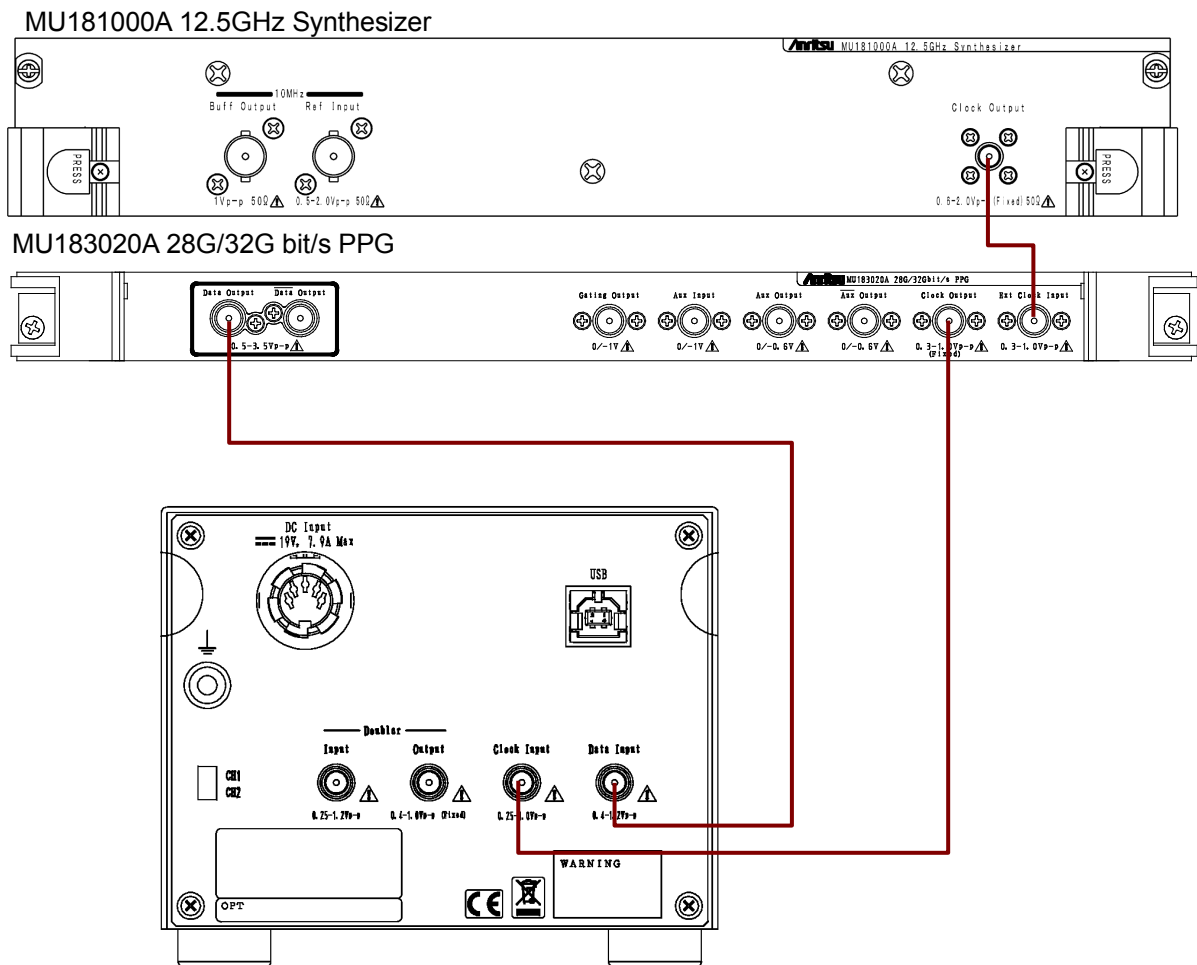

Figure 3.3-8 Connection to MU183020A 28G/32G PPG (Bit Rate 28.1 to 32.1 Gbit/s)
- For connection shown in Figure 3.3-8, set Output Clock Rate of MU183020A as **Full rate**. For MU183020A setting method, refer to Chapter 5 “Operation Method” in the *MU183020A 28G/32G bit/s PPG MU183021A 28G/32G bit/s 4ch PPG Operation Manual*.